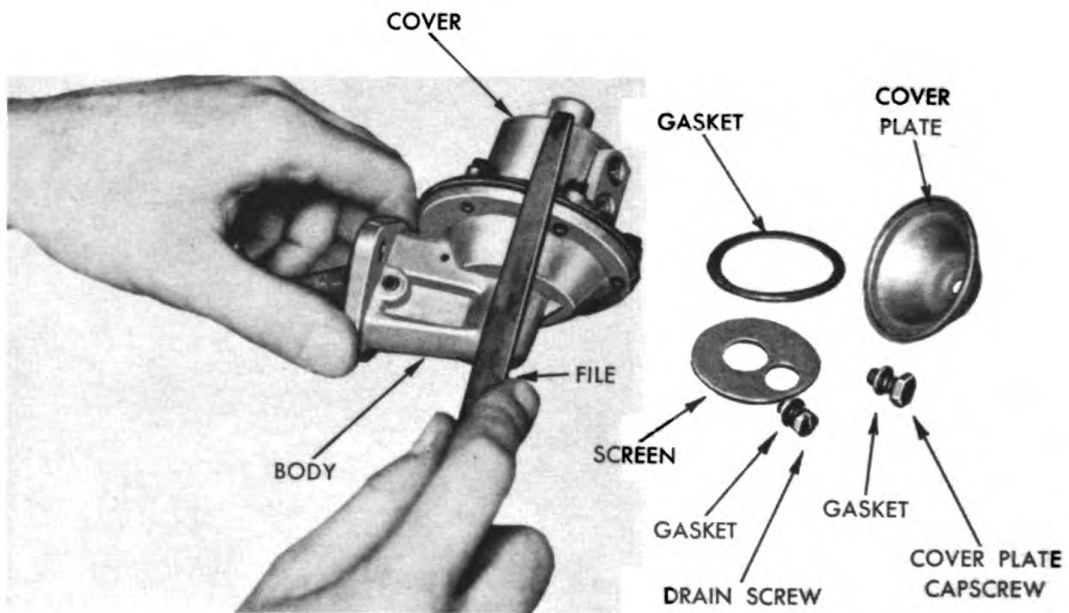

Figure 296. Filing Fuel Pump Cover and Body for Future Reassembly.
- c. Remove strainer screen, drain plug from side of cover and mark edges of top cover and body with a file. See figure 296. (This is to assure that the parts may be assembled in the same relative position.)
- j. Install drain screw gasket, drain screw, and top cover on pump body being sure to line up the file marks. Figure 296.